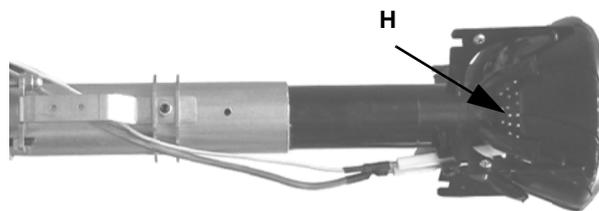

Fig. 57
- 4 Disconnect the connector **CR** (Fig. 57).
To remove the head, the operator must pull it towards himself. Once the combustion head is removed, check that the air and gas holes are not obstructed (Fig. 57 - **H**). Clean the combustion head by a compressed air blow or, in case of scale, scrape it off by a scratchbrush.